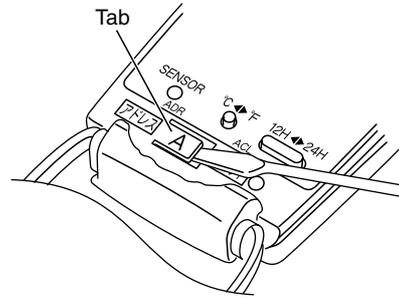
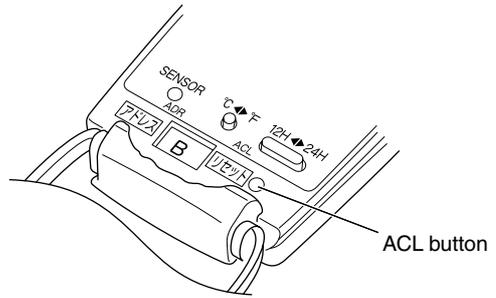

Fig. 13
Fig. 14
- (1) Switch on the power source.
- (2) Break the address-setting tab marked "A" on the second remote controller to change the address (Fig. 13). When the tab is removed, the address is automatically set to B (Fig. 14).
- (3) Press and hold the remote controller LED CLEAN button and 1 HR TIMER button. At the same time, press the ACL(reset) button. Use a thin object such as the tip of a pen to press the ACL button. When this has been done, "oP-1" (test run) appears, blinking, in the remote controller clock display area.